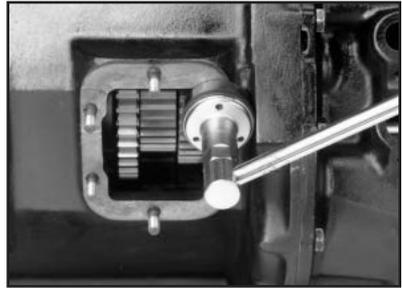

Figure 5
5. Mount the adapter to the transmission with the gaskets provided. Then check and set backlash between the adapter and the transmission (**Fig. 5**).